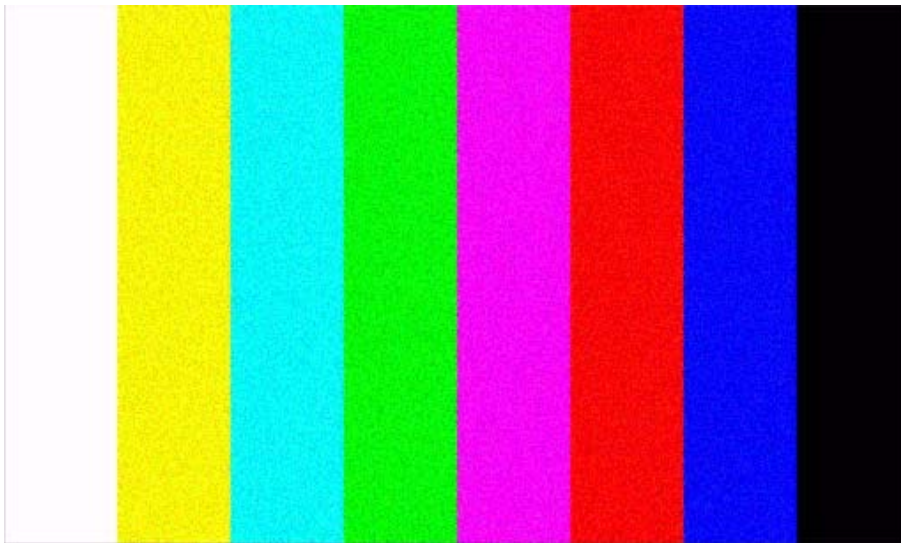

figure 4: noise
- One or more fields are noising – bad signal transfer of the source or bad signal processing in the source and/or image sender. (fig. 4)